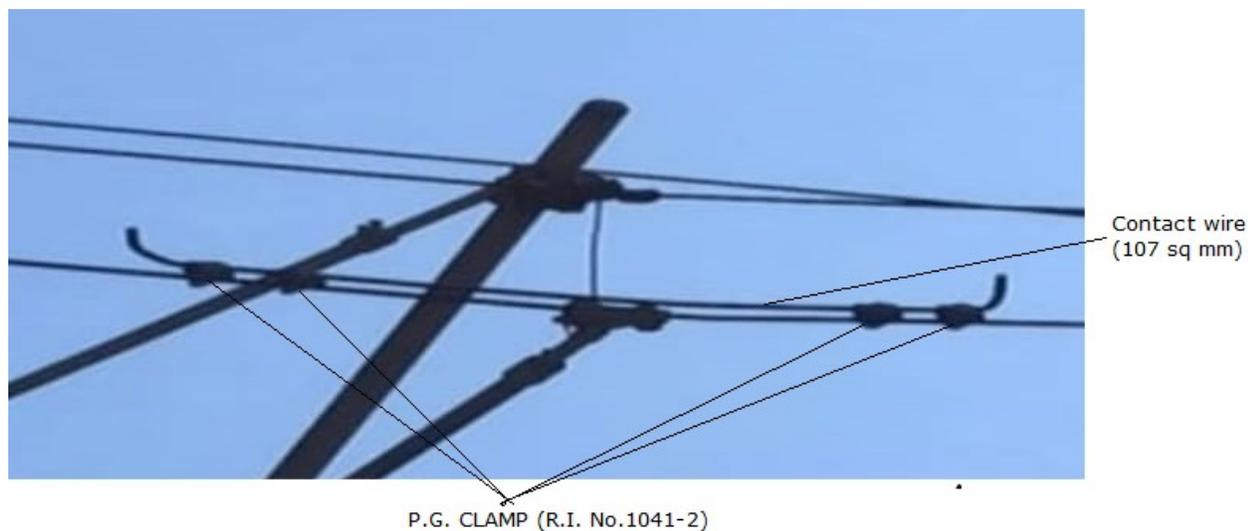

FIGURE-1
b) The arrangement for supporting contact wire across RRA clamp with 02 PG clamps on either side is shown in figure-1.